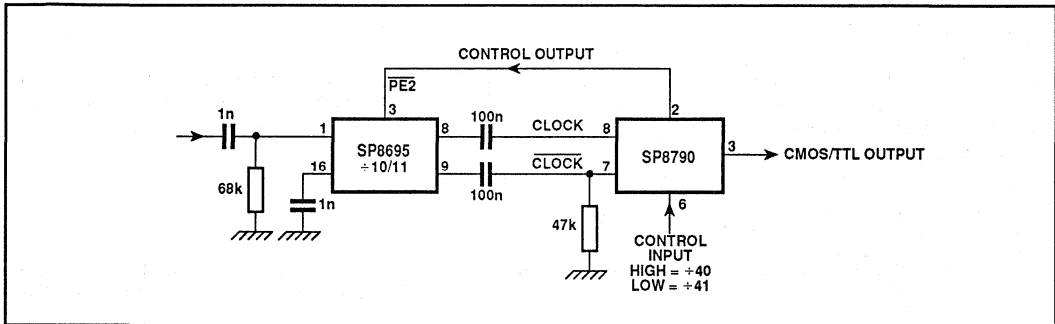

Fig. 5 Typical interfacing to suppress oscillation with no input signal
5. When used as a controller the device will self-oscillate in the absence of an input signal; this can be prevented by connecting a 47k Ω resistor from pin 7 to ground, as shown in Fig. 5.